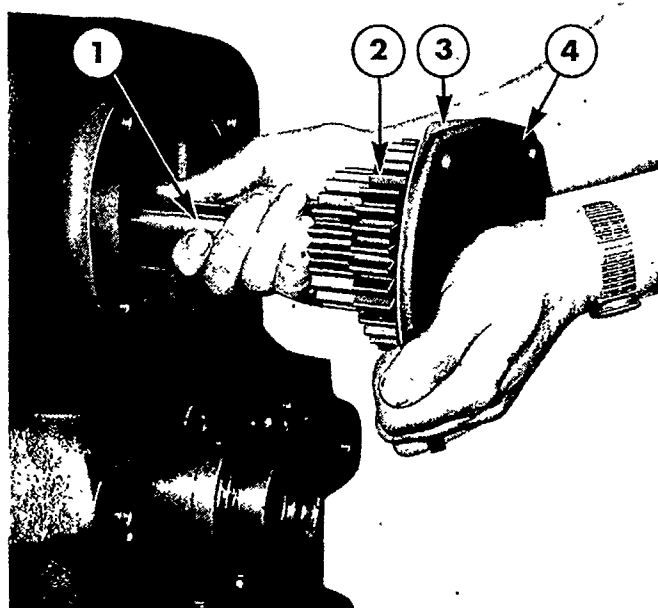

Figure 15
4. Remove the bolts securing the upper shaft rear bearing retainer then remove the retainer, bearing, P.T.O. drive gear assembly and shaft, as shown in Figure 15.